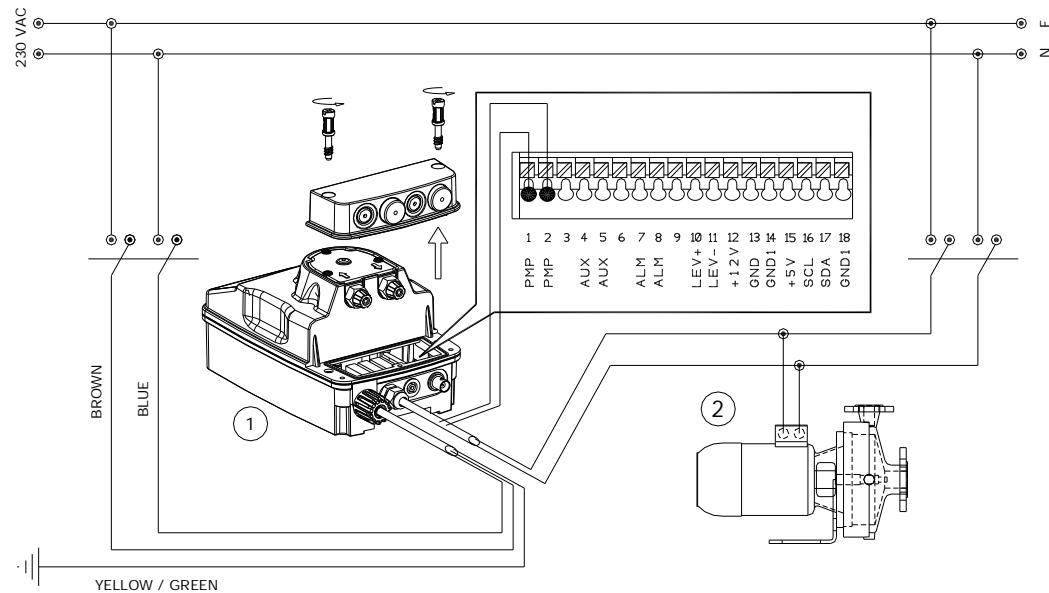
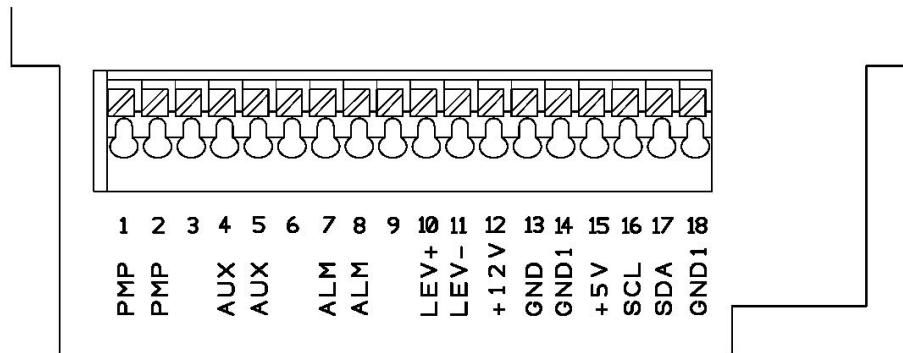

Fig. 2 – Installation and terminals
Fig. 5 – Service Connector
Carefully observe the regulations in force in the various countries as regards electrical installations (Fig.2). **When the supply cable is devoid of a plug, the equipment should be connected to the supply mains by means of a single-pole circuit breaker having a minimum distance of 3 mm between the contacts. Before accessing any of the electrical parts, make sure that all the supply circuits are open.**
Before attaching the delivery hose to the plant, prime the peristaltic by going through the sequence shown in fig.5. Try to keep both the suction and discharge hose as straight as possible, avoiding all unnecessary bends. Select the most appropriate injection point on a pipe of the plant to be treated and there fit a 3/8" female steel gas thread connector (similar to BSPm). This connector is not supplied with the pump. Screw the injection valve to the gas connector, inserting a gasket tape as Teflon. Then connect the discharge hose to the conical connector on the injection valve and fix it with the supplied tube nut. The injection valve also acts as no return valve by means of a cylinder sleeve.
In figure 5 is shown the scheme of the service connector for the connection of the various services. To the service connector is accessed by removing the protective cover as shown in fig. 2.
- **Connectors 1-2 (PMP)**= Connection for the recirculation pump. Input at 230V. (Fig.2).